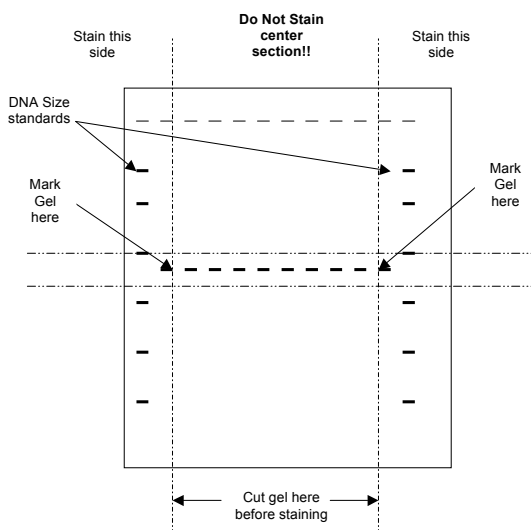

Figure 1. Purification of transposon DNA (PCR product or restricted transposon clone) by gel electrophoresis.
To resolve the transposon and vector DNA, analyze the digested pMOD clone on a low-melting-point (LMP) 1% agarose gel. It is important to perform this electrophoresis in the absence of ethidium bromide (do not add ethidium bromide to the gel). The DNA that will be cloned should not be exposed to UV light under any circumstances. This can decrease the cloning efficiency by 100-fold or more (see Fig. 1).
4. Following electrophoresis, cut off the outer lanes of the gel containing the DNA Size Marker, and a small portion of the next lanes that contain the digested DNA (see Fig. 1).
Transfer the gel slice to a tared, sterile, 15-ml screw-cap tube for extraction, either by using the GELase method, or other desired method for isolating DNA from agarose gels (see Fig. 1).
If you wish to gel-purify their transposons after synthesis by PCR, we strongly recommend following the procedure shown in Fig. 1.